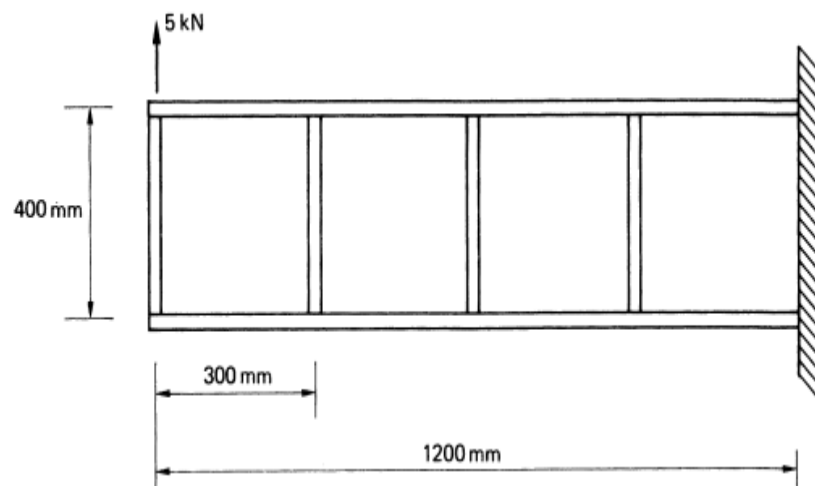

Fig.5
- b) The beam shown in Fig.5 is assumed to have a complete tension field web. If the cross-sectional areas of the flanges and stiffeners are, respectively, 350 mm^2 and 300 mm^2 and the elastic section modulus of each flange is 750 mm^3 , determine the maximum stress in a flange and also whether or not the stiffeners buckle. The thickness of the web is 2 mm and the second moment of area of a stiffener about an axis in the plane of the web is $2,000 \text{ mm}^4$; $E = 70,000 \text{ N/mm}^2$. 10